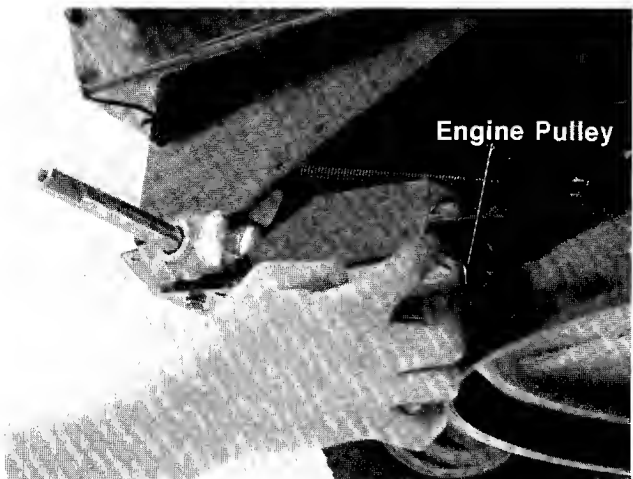

FIGURE 29.
7. Pivot the upper engine belt guard out and away from the engine pulley. See figure 29.